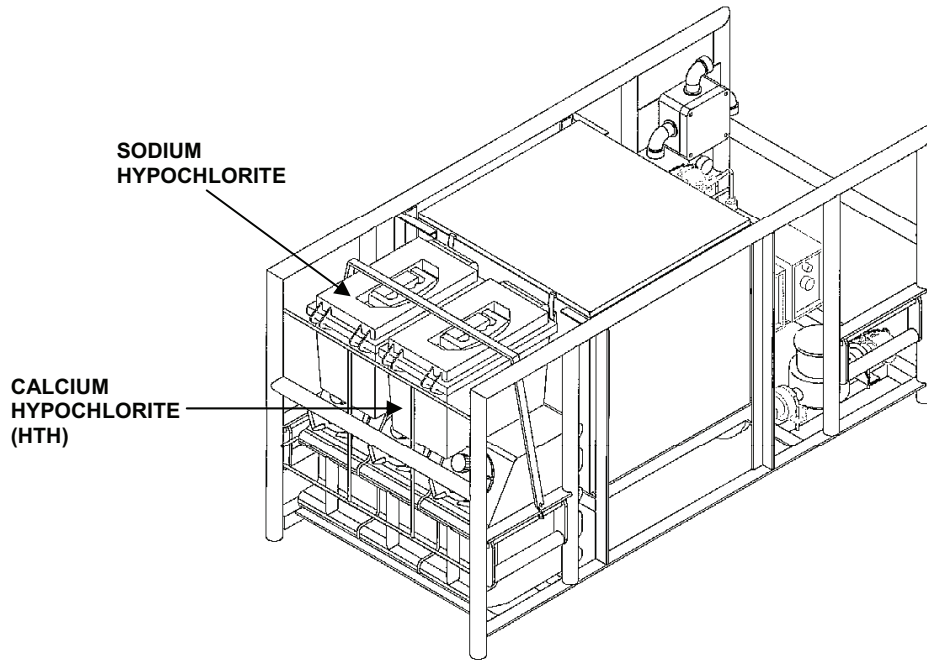

Figure 12. Chemical Module with Operational Chemical Boxes.
24. Remove the chemical boxes from the storage area on the chemical module. Place them inside empty cable box for operational storage. See Figure 12. See WP 0013 for description of other chemicals stored inside the cable box.